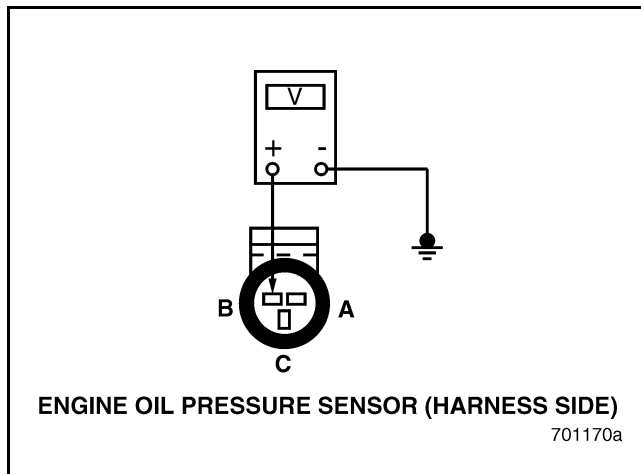

Figure 14
4. Measure voltage between Engine Oil Pressure (EOP) Sensor harness connector pin B (reference voltage line) and a good ground (see Figure 14).